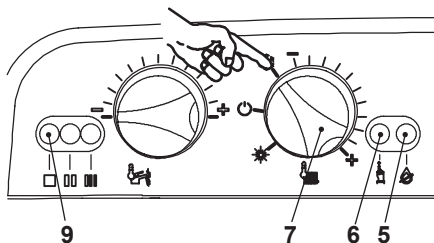

Fig. 7.3
- Turn the function selector 7 as in Fig. 7.3. The appliance operation light 9 will flash every 2 seconds.